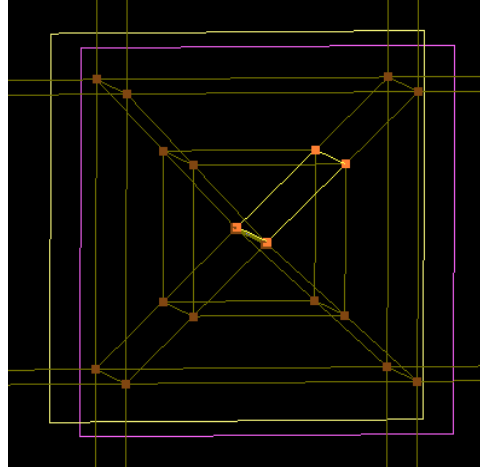

Figure 8.3
- Switch on group 3 and add corners shown in figure 8.3.